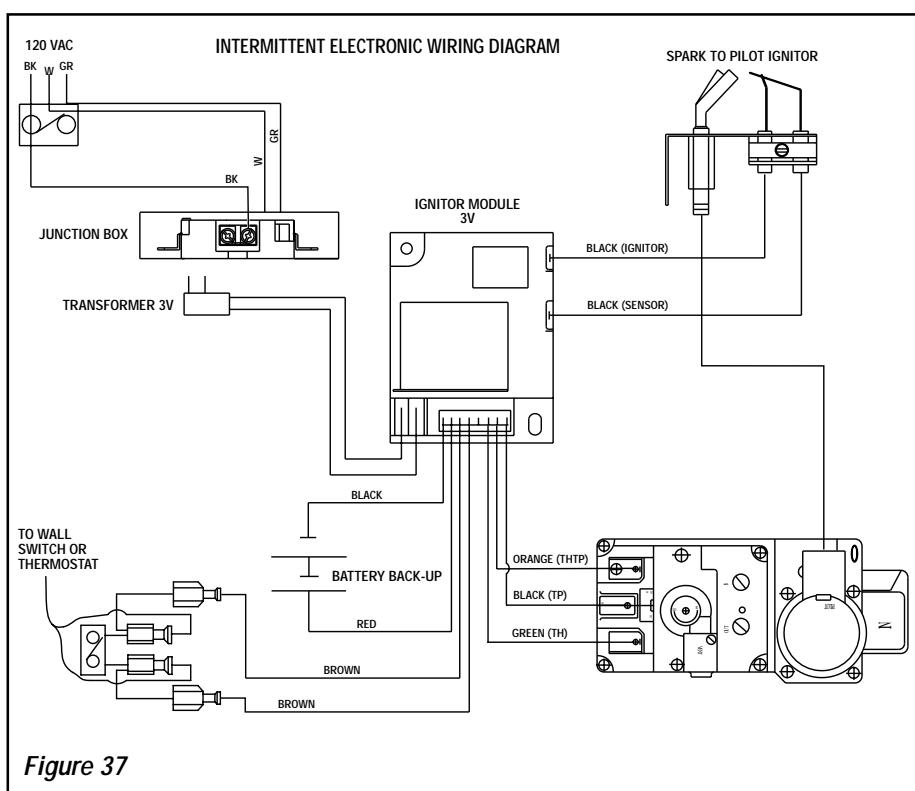

Figure 37
B. Electronic Wiring (See Figure 37) –
- Connect the black power supply wire to the **lower outlet's** red pigtail lead and the white power supply wire to the **common** terminal of the outlet as shown in Figure 37.
- If an optional control is to be used, wire it in the low voltage circuit as shown in Figure 37.
IMPORTANT: Ground supply lead must be connected to the wire attached to the green ground screw located on the outlet box. See *Figure 37*. Failure to do so will result in a potential safety hazard. The appliance must be electrically grounded in accordance with local codes or, in the absence of local codes, the National Electrical Code, ANSI/NFPA 70-(latest edition). (In Canada, the current CSA C22-1 Canadian Electrical Code.)